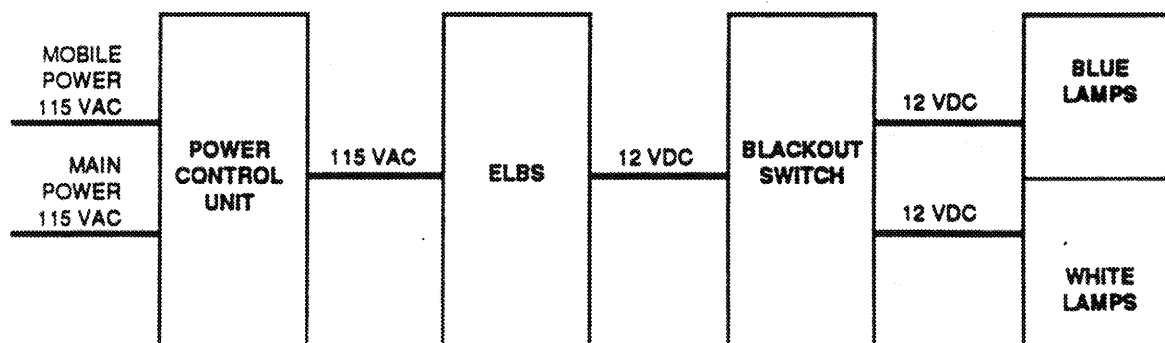

Figure 2-1. Emergency Lighting Battery System (ELBS)
d. Emergency Lighting Battery System (ELBS). If a power failure occurs during mobile or stationary operation, the ELBS (Figure 2-1) maintains partial lighting inside the Force Terminal. No operator action is required to enable the ELBS when primary power is lost. Blackout protection is also maintained.